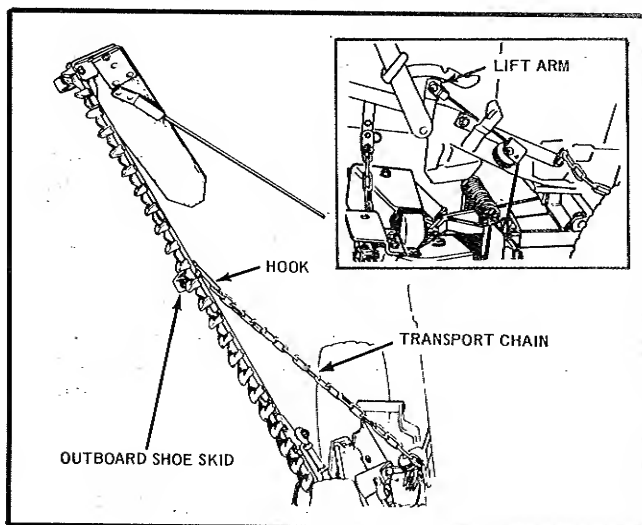

FIGURE 9
4. Fasten the cable pulley mounting bracket to the right hand side of the tractor as shown in Figure 9, and attach the transport chain to the forward mounting bolt used to fasten the pulley bracket to tractor. The rear mounting bolt is held in place with a lock washer and hex nut on the Model 725 tractor (Mfg. No. 210).
When transporting the sickle bar, the sickle bar must be swung up (handle low position, Mfg. No. 210) and locked in the raised position by the transport chain. The hook of the transport chain may be conveniently attached to the out-board skid shoe as shown in Figure 9.